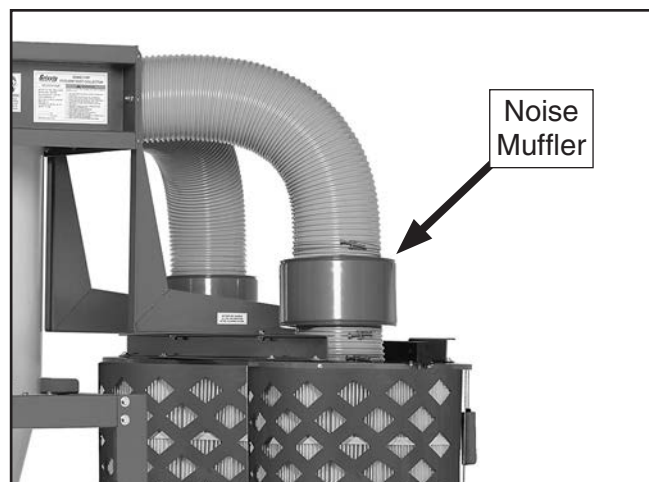

Figure 25. Noise mufflers connected between the outlet ports and the canisters.
21. Attach one roll of 3 x 15 x 700mm foam tape to both ends of each noise muffler, then connect them between the outlet ports and the canisters with the 8" flexible hoses and clamps, as shown in **Figure 25**.